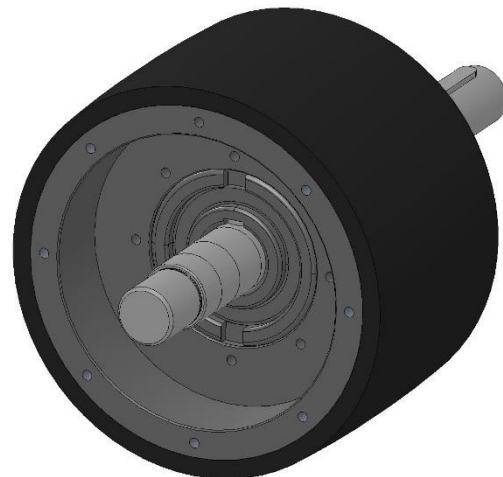

Figure 15: Removed clutch side flange
4. Remove eight bolts M8 (figure 15) and then remove clutch side flange (Figure 16).